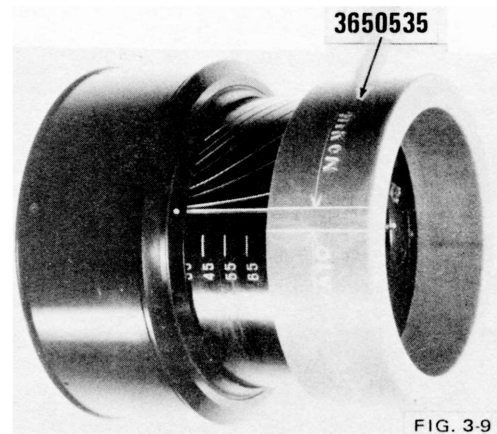

FIG. 3-9
- d) Place the angle setting tool No. 3650535 over the rear of the lens as shown in Fig. 3-9.
- e) Rotate the tool until the correct scribed angle setting line for the lens is aligned with the center of the infinity index line. Fig. 3-9.